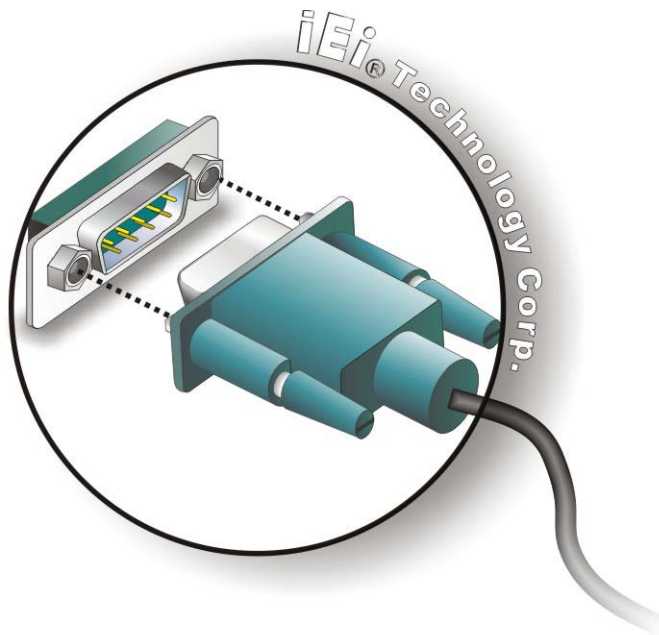

Figure 3-12: DB-9 Serial Port Connection
Step 2: Insert the serial connector. Insert the DB-9 connector of a serial device into the DB-9 connector on the bottom panel. See **Figure 3-12**.
Step 3: Connect the serial device. Connect a serial device to the DB-9 connector end of the cable. See **Figure 3-12**.